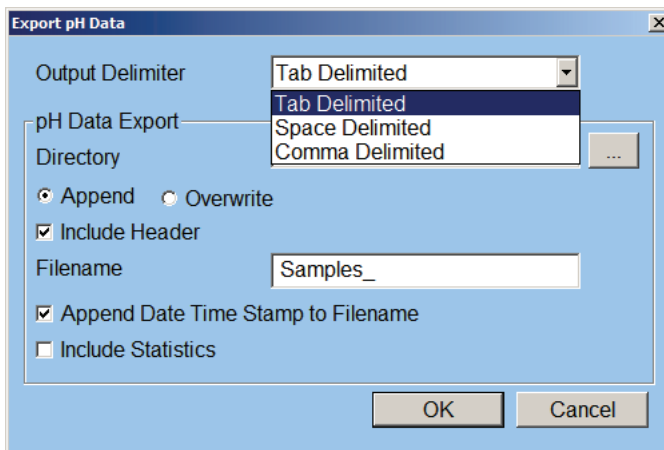

Figure 6.28. Export pH Data dialog box
6. Complete the following Export Data options (refer to Figure 6.28):